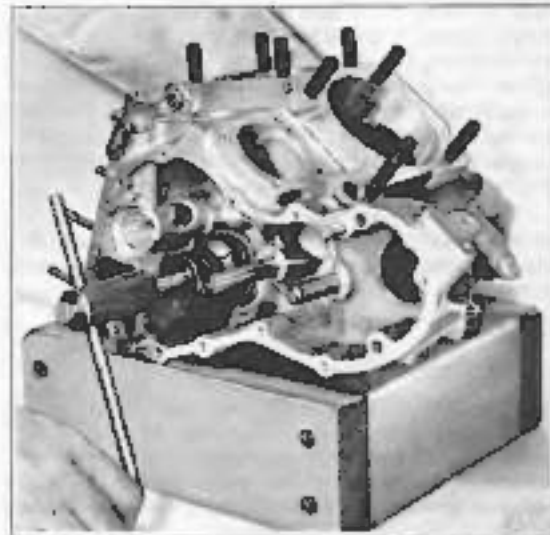

Figure 3-48. Lapping Pinion Shaft Main Bearing Race
**LAPPING ENGINE MAIN BEARINGS** (Figure 3-48). Secure right and left crankcase halves with three crankcase stud bolts (top center and bottom left and right). The sprocket shaft bearing outer races and large spacer must be installed in left crankcase.